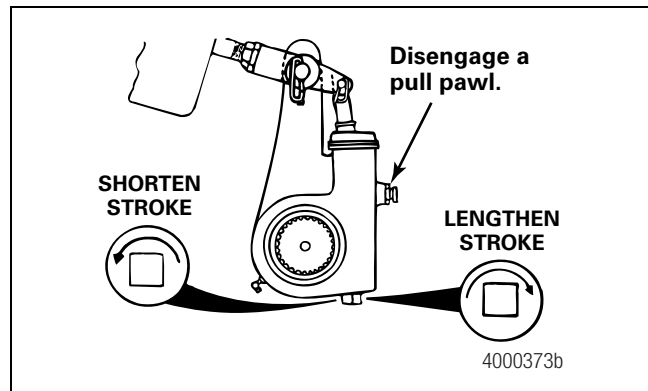

Figure 3
- **If the free stroke measurement is not within specification:** Turn the adjusting nut 1/8 turn in the direction shown in Figure 3 and check the free stroke again. Continue to measure and adjust the stroke until the measurement is within specification.